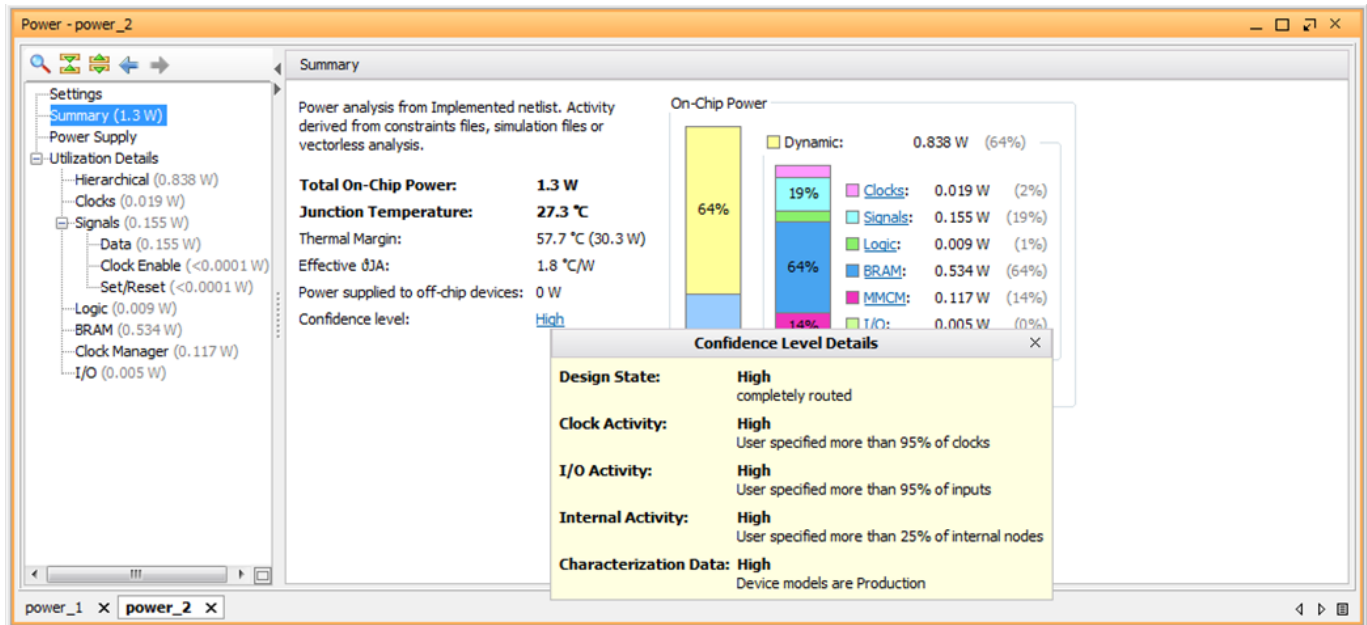

Figure 38: Confidence Level for Power Analysis with SAIF Input (power_2)
8. In the **Summary** view of the **power_2** report (the report generated by the analysis for which you specified a SAIF file as input), click on the **Confidence level (High in Figure 38)**.